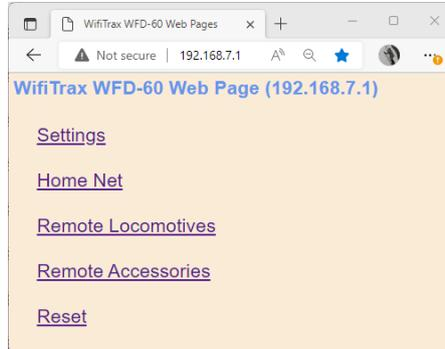

Figure 26 The Main Menu of the WFD-60
- (4) Now you are ready to start working on your WFD-60. On your computer, tablet or phone connect to its Wi-Fi Access Point, wftrx_WFD60_1_XXXXXXXX_7, where XXXXXXXX is its serial number.
- (5) Open a browser and type 192.168.7.1 into the URL textbox, then hit enter. This should display the main menu as in Figure 26.